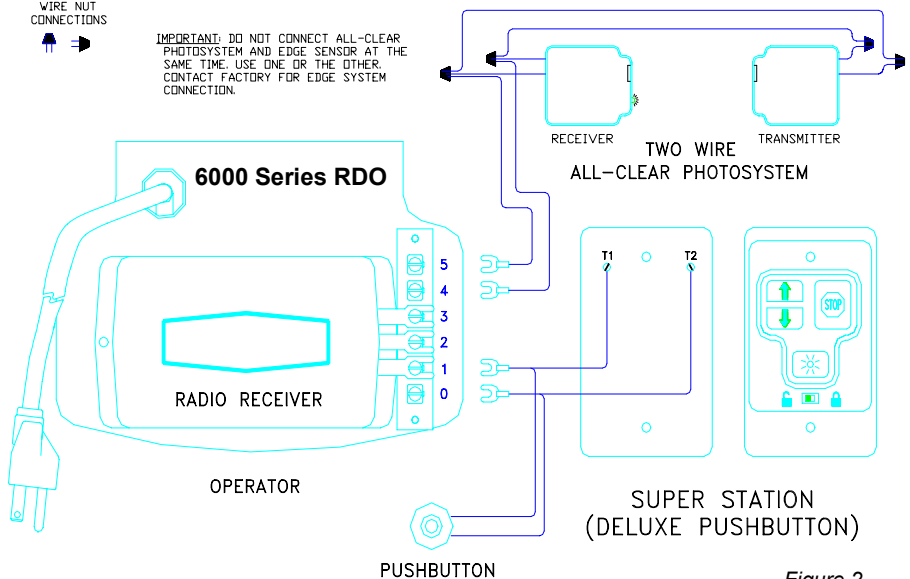

Figure 2
Refer to Figures 2 through 4 for various wiring options for the All-Clear™ Photosystem. Steps B and C, below, describe the wiring for Series Connection with Receiver First, as illustrated in Figure 2.
- C. Connect the interconnect wire pair to the garage door opener terminals marked "B" & "C" (for the 3000 & earlier Series operators), terminals "4" & "5" (for the 6000 Series units). Although not required, it is suggested that the "trace" be connected to Terminal B (3000 Series operators), or 4 (6000 Series operators). See Wiring Diagram, Figure 2 (shows 6000 Series configuration)